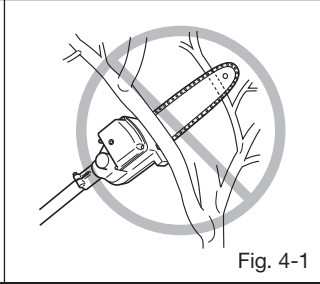

Fig. 4-1
Vaihteisto (Fig. 4-1)
- Look out for branch immediately behind the branch being cut. If blade hits rear branch damage to blade may occur. (Fig. 4-1)